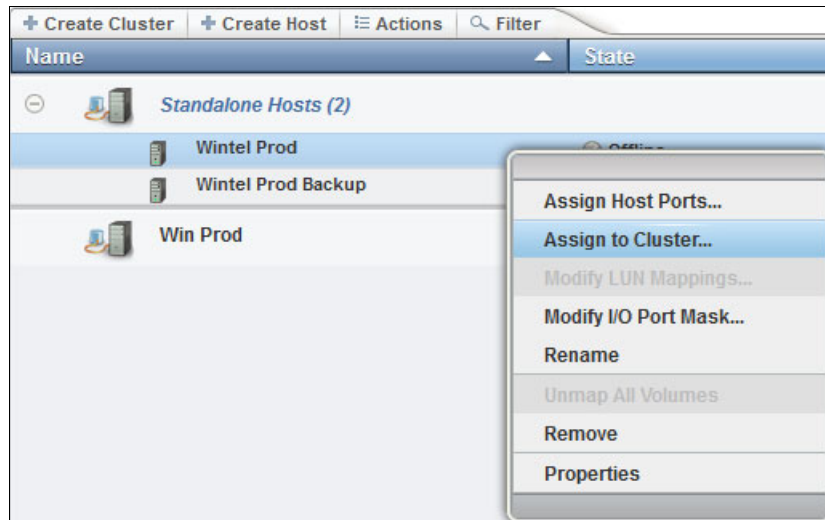

Figure 11-54 Assign to Cluster
2. Either right-click, or from the **Actions** tab, select **Assign to Cluster**, as shown in Figure 11-54.